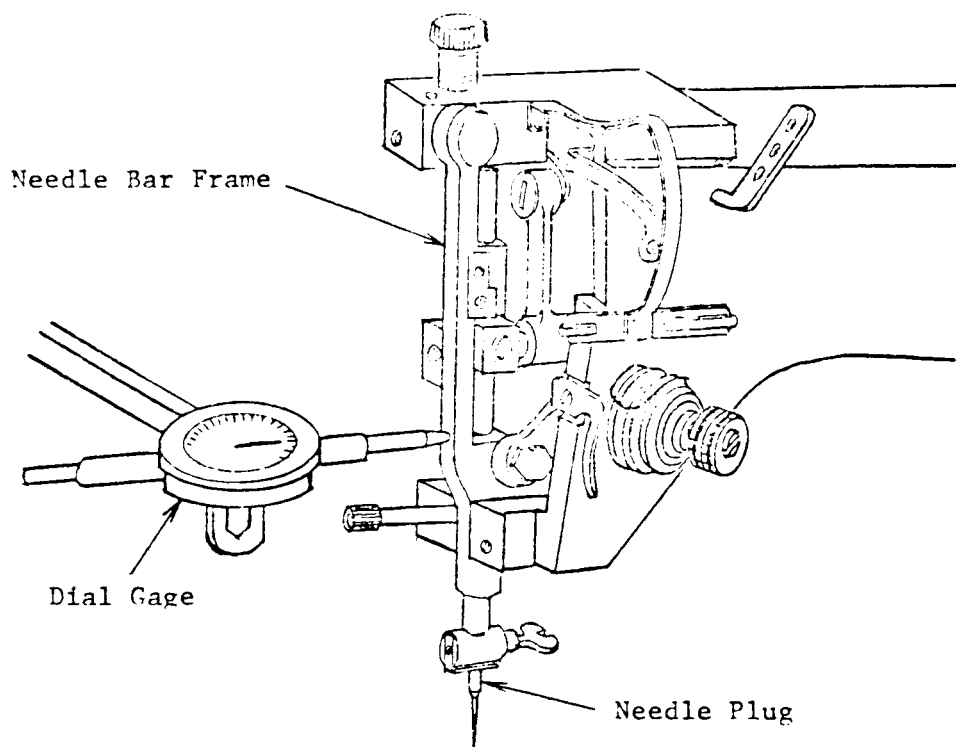

Fig. 11
4. Check with a dial gage (Fig. 11) to see whether the needle is still making sidewise movement while in the fabric and below throat plate, and if necessary, readjust as instructed above.
4. Turn machine pulley over toward you and check existence of sidewise movement of needle. (Fig. 11)
Check, using a dial gage (Fig. 11), and make sure the sidewise movement (if any) is held to less than 0.05 and securely tighten set screw.